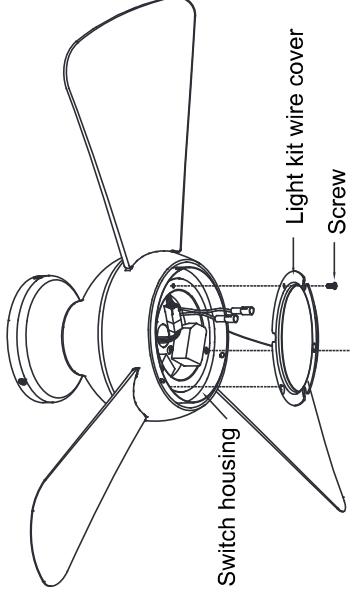

Fig. 15a
Step 5. If installing the light kit, skip to step 7. Assemble the light kit wire cover to the switch housing using the two key slots. Replace the removed screw and secure all the three screws (**Fig. 15a**).